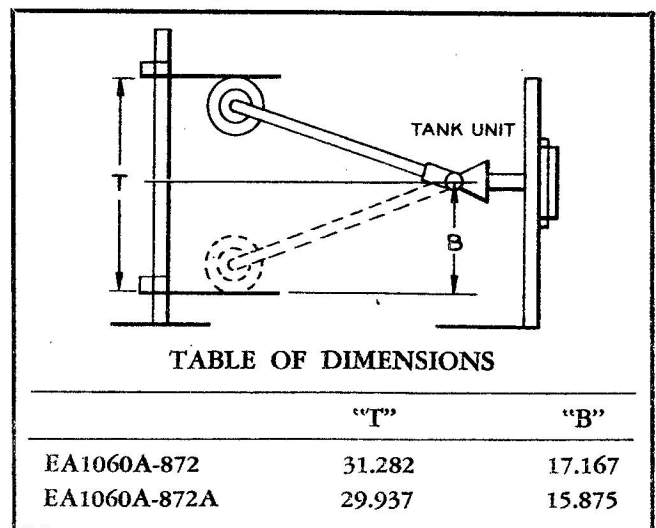

Figure 4-261. Set-Up Stand Diagram
a. With tank unit in a set-up stand adjusted to dimensions given in figure 4-261, connect a Kelvin Wheatstone Resistance Bridge (No. 638R, Shallcross Manufacturing Co., Collingdale, Pa., or equivalent) across pins A and B of tank unit electrical receptacle.